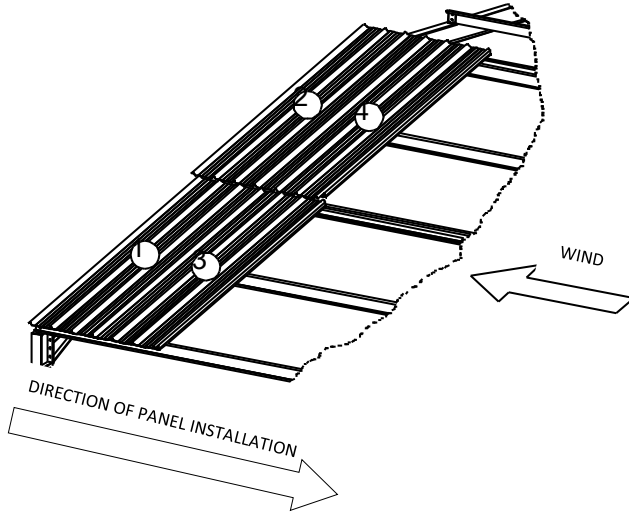

fig. 1
a. Installation of roof sandwich panels should begin from a roof edge and should be continued in the direction opposite to prevailing winds. Such arrangement of panels provides additional protection against penetration of wind-driven rain into panel joints (Fig.1)